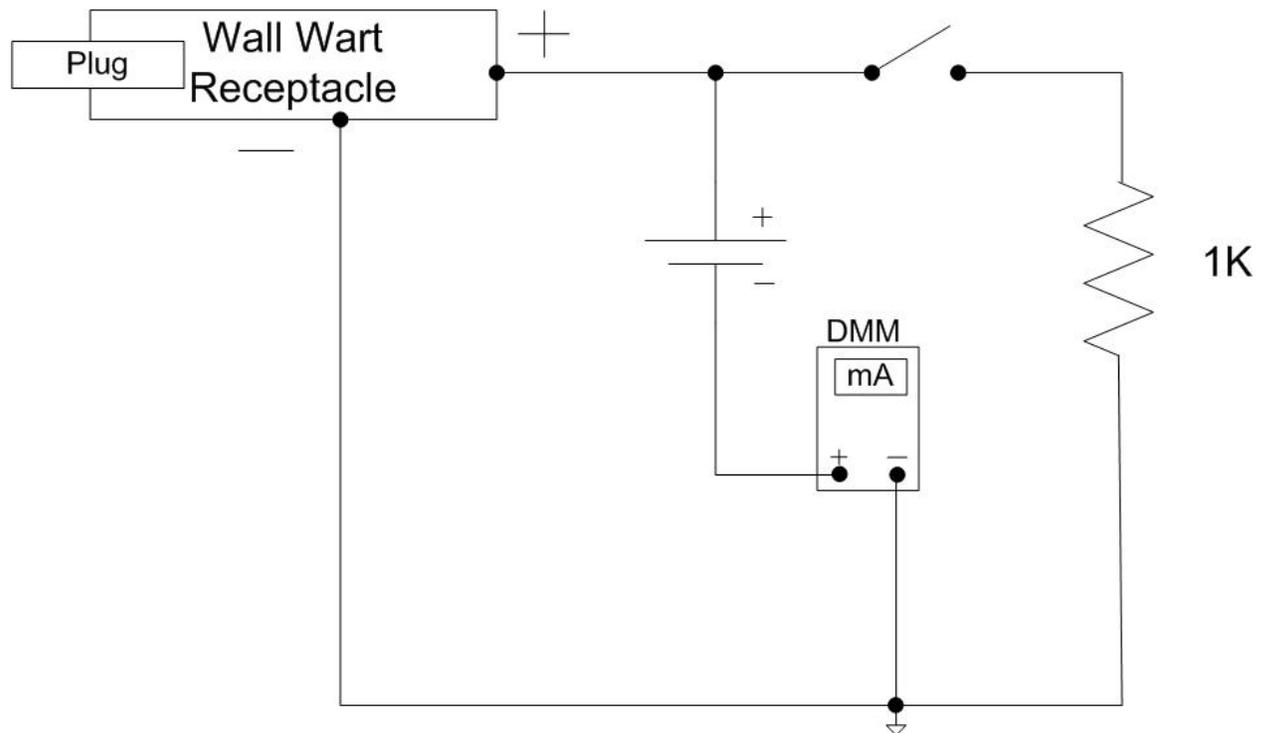

Figure 3.7: Power Dissipation/Generation
In Figure 3.7, the ammeter measures the current that enters or exits the battery. This circuit is a conceptual representation of the charger board.
1. With reference to Figure 3.7, draw a schematic diagram of the circuit when the wall wart is plugged in. Show the current magnitude, directions and the orientation of the battery. Also write down the battery voltage taken earlier, next to the battery symbol.